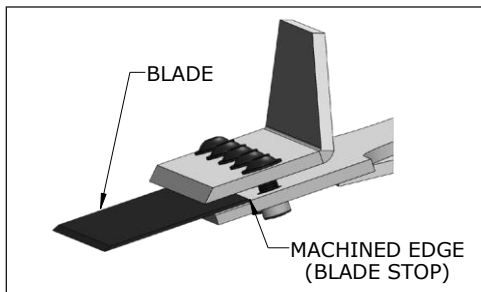

FIG. 7.2
3. Place blade into the cutting head and slide back until fully seated against the machined edge (Figure 7.2).